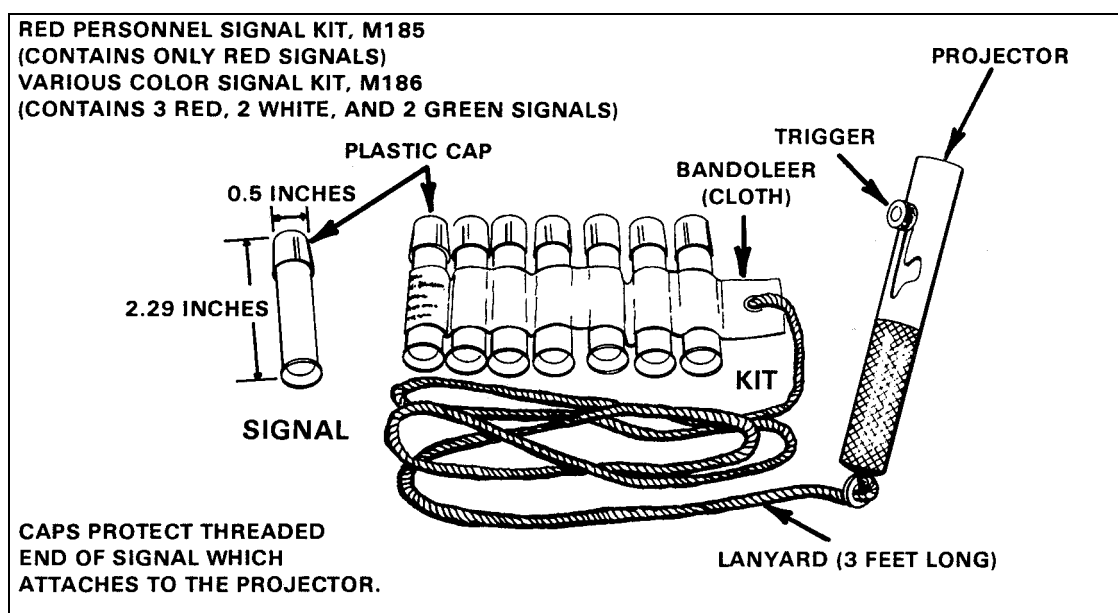

Figure 5-8. Signal kit 1.
(1) *Contents.* The projector and the bandoleer plus seven projectiles or signals make up the signal kit (Figure 5-8). All signals may be obtained and fired separately. The M185 red signal kit contains only red signals. The M186 signal kit contains three red, two white, and two green signals.